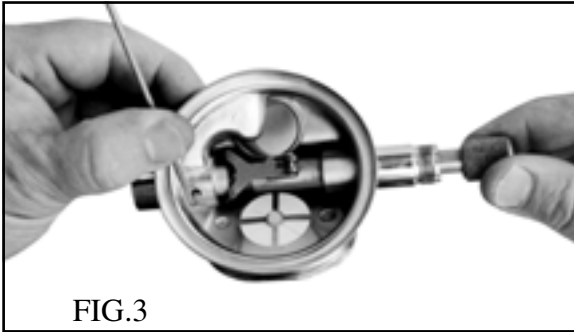

FIG.3
the inlet valve (23). Now tighten the nut (16) until two threads are visible past the nut (FIG.3)
7. While holding the lever (18) down, install the inlet